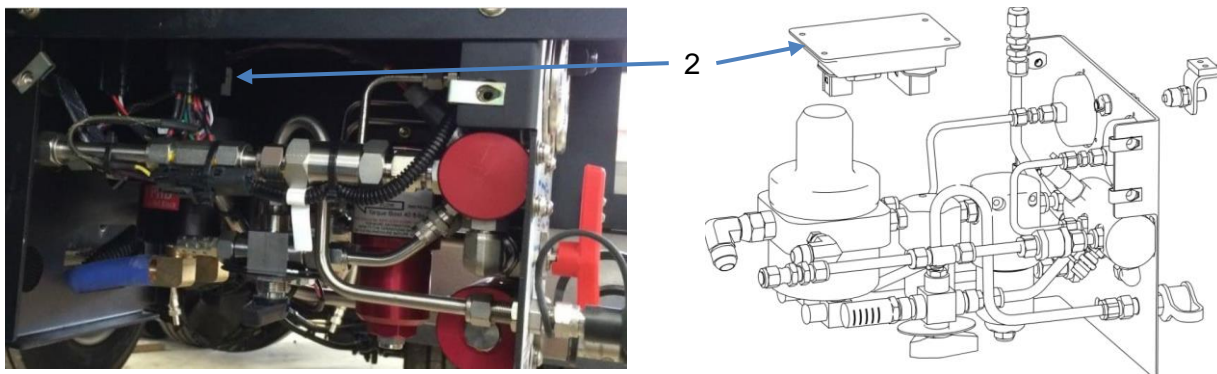

Figure 3.
3. Locate ECU (2) on upper right-hand corner of FMM. *Figure 3*